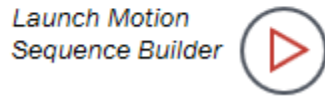

Figure 155. Motor Manager Motion Sequences page
- the Motion Sequences page in Motor Manager (Figure 155)